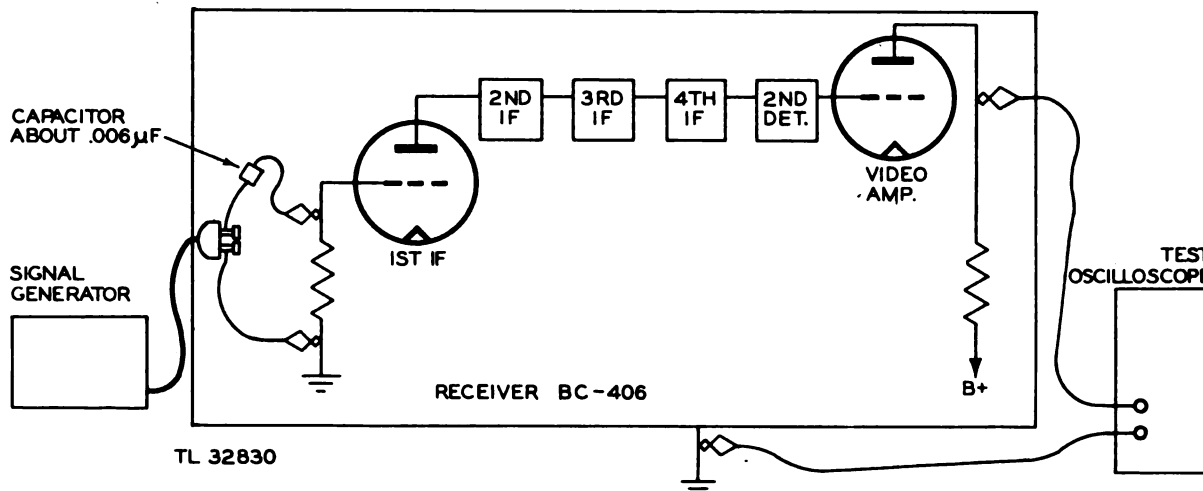

Figure 30. Signal generator, test connections.
various points of the circuit under test, and observing the change in signal output. This establishes the amount of amplification available in the respective stages of the circuit under test, and, where the proper gain is not present, indicates the approximate location of the defect. Supplementary tests with other apparatus are then made to locate the defective component of the particular stage. Figure 30 illustrates the proper test connections for using the signal generator as a source of signal input to the i-f stages of the receiver. The frontispiece shows Receiver BC-406-A being aligned by means of a signal generator and test oscilloscope.
e. Output Coupling. Take care when applying the signal generator to a circuit inasmuch as the secondary of the output transformer can shunt or short-circuit the bias or other operating potential in the circuit. For example, to prevent the loss of grid bias when the output of the signal generator is applied to the grid of an i-f stage in Receiver BC-406, it is necessary to insert a capacitor in series with the hot lead. Figure 30 illustrates the proper test connections.
a. *General.* The signal generator included with Test Equipment RC-68-(*) is used in connection with the alignment and repair of the radio-frequency stages of Receivers BC-406 and BC-406-A. The proper signal input for alignment of the r-f and i-f stages of the receiver is provided, and the same signal is used to trace signals for fault location in these stages. Figure 30 illustrates the proper test connections for using the signal generator as a source of signal input to the i-f stages of the receiver.
(1) Measurements model 78-B has two frequency ranges: 15 to 25 megacycles, and 195 to 225 megacycles.
(2) Measurements model 78-C also has two frequency ranges: 15 to 25 megacycles, and 90 and 125 megacycles.
(1) Measurements model 78-B has two modulating frequencies that can be applied to the signal generated: 400 cycles per second, and 8,200 cycles per second.
(2) Measurements model 78-C also has two modulating frequencies that can be applied to the generated signal: 400 cycles per second, and 625 cycles per second.
d. *Output Coupling.* There is no blocking capacitor in the output circuit of this signal generator, and the secondary of its output transformer can provide a short-circuited path for d-c potentials, for example, bypassing the bias or any other operating potential. For this reason care must be taken in making connection of the test leads when applying the signal voltage to a circuit under test. For instance, if the signal-generator output terminals are connected directly across the grid circuit of any i-f stage, the grid bias will be shorted out if a blocking capacitor is not inserted in series with the hot lead. The proper connection for applying a signal voltage to the grid of the first i-f is illustrated in figure 30. When working at approximately 200 mc, the value of the blocking capacitor should be about 0.002 mf; when working in the i-f system at approximately 20 mc, the value of this blocking capacitor should be about 0.006 mf.